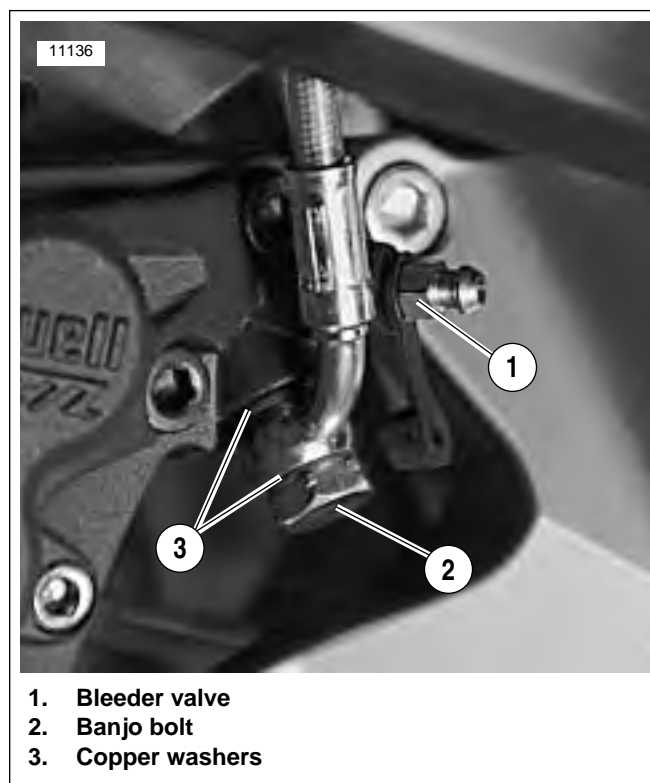

Figure 2-45. Bleeder Valve and Banjo Bolt (Caliper)
- a. See Figure 2-45. Remove front caliper bleeder valve cap and install a length of plastic tubing over valve (1). Place free end in a suitable container.
6. See Figure 2-45. Remove caliper banjo bolt (metric) (2), two copper washers (3) to disconnect brake line from caliper. Discard copper washers.
- a. See Figure 2-45. Install **new** copper washer (3), brake line, **new** copper washer (3) onto banjo bolt (2).
5. Install and tighten p-clamp with fastener (1) on lower triple clamp to 36-60 **in-lbs** (4-7 Nm).
7. See Figure 2-45. Tighten brake caliper banjo bolt (metric) to 16-20 ft-lbs (22-27 Nm).